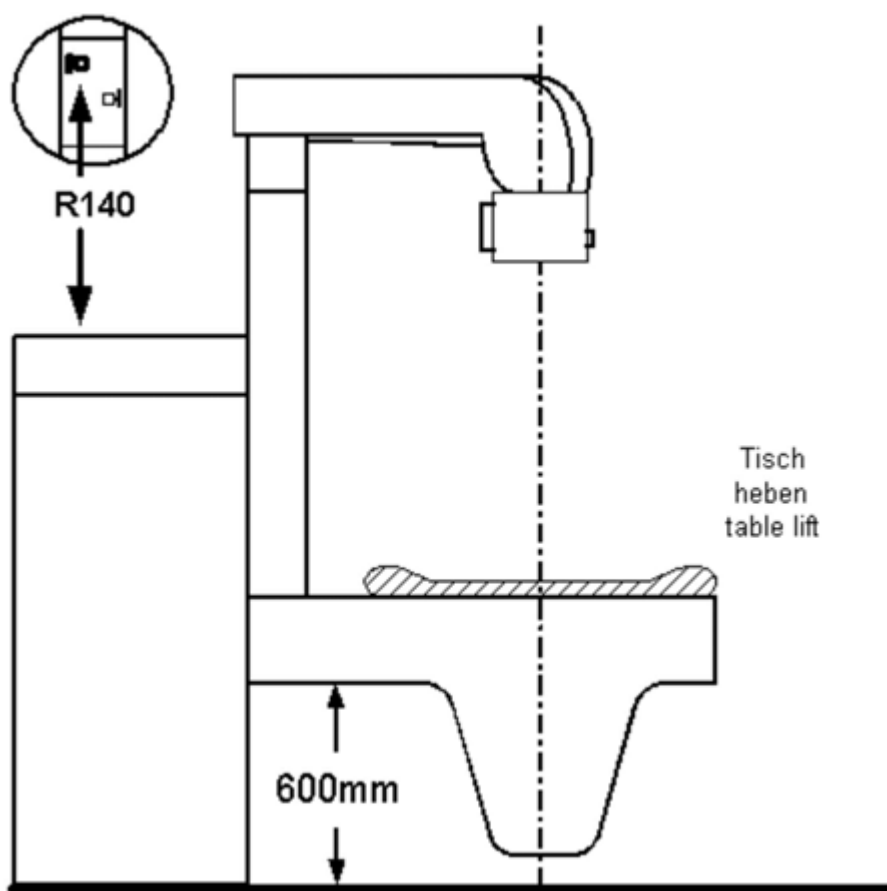

Fig. 27: Adjustment - table lift
- Using the service keys, move the lift drive into the reference position (Fig. 27 / p. 44).
Access: through lifting base (see arrows (Fig. 27 / p. 44))